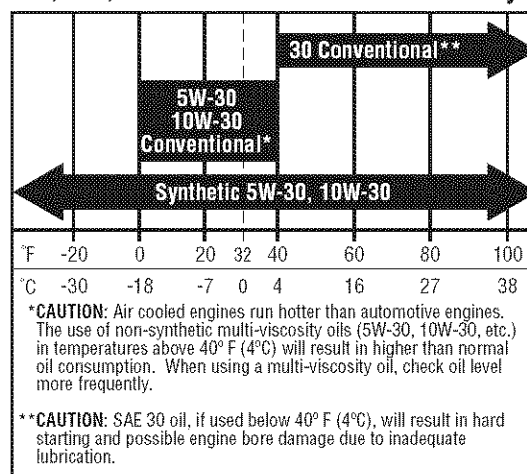
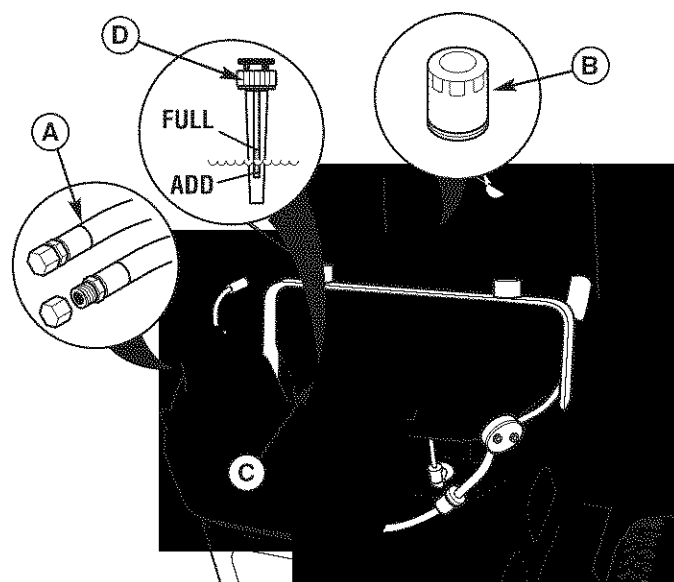

**Figure 28. Recommended Engine Oil -
Figure 29. Oil Change - Briggs & Stratton Models
2. Clean the area around the dip stick (C, Figure 29).
3. Remove the dip stick (C) and clean it with a paper towel.
4. Insert the dip stick back into the engine. Thread the cap back onto the tube (D).
5. Remove the dip stick and read the oil level. The oil level should be between the "FULL" and "ADD" marks (D). If not, add oil according to the oil recommendations chart (Figure 28).
1. Clean the area around the dip stick (C, Figure 29) and oil drain tube (A).
2. Remove the oil drain plug (A) from the end of the oil drain tube. Remove the dip stick (C). Allow ample time for complete drainage.
3. Reinstall the oil drain plug (A) and route the hose next to the engine.
1. Clean the area around the dip stick (C, Figure 29) and oil drain (A).
2. Remove the oil drain plug (A) and dip stick (C). Allow ample time for complete drainage.
3. Remove the oil filter (B). Discard the filter.